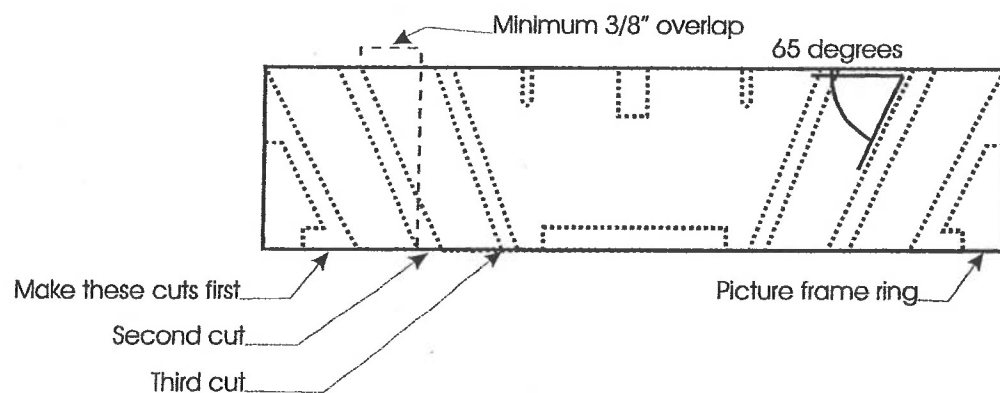

Figure 2: Sample drawing for 8" by 2" blank, with three sections.
- f. The outside ring may be used for a round picture frame. Cut an additional rebate about $\frac{1}{4}$ " deep before cutting the ring. See Figure 2.
Note: You must start with the cuts farthest from the center and work inward, as shown in Figure 2 on page 2.
- 1) Tape a copy of your initial layout drawing (see Figure 2 on page 2) on the toolrest. Make sure the toolrest is parallel to the work piece, and that the drawing is centered to the work piece.